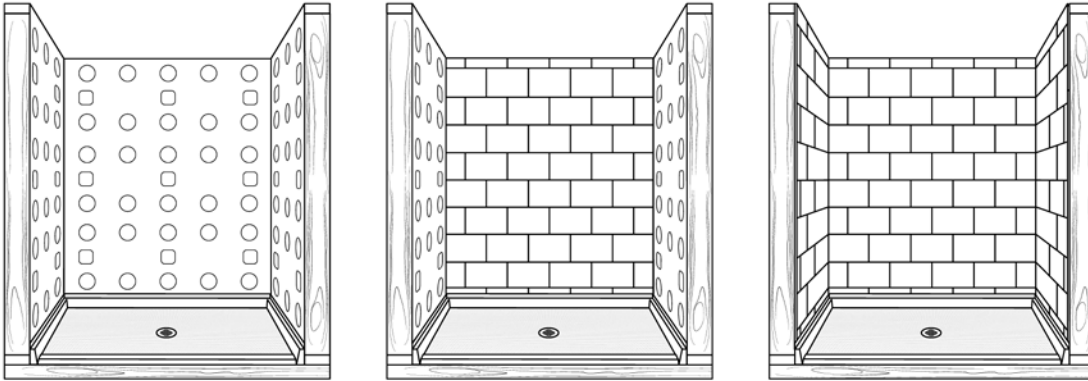

figure 12
8. Apply construction adhesive in even dots or lines on the unfinished back of the panel. Add silicone evenly between the dots or lines of adhesive (see figure 12).